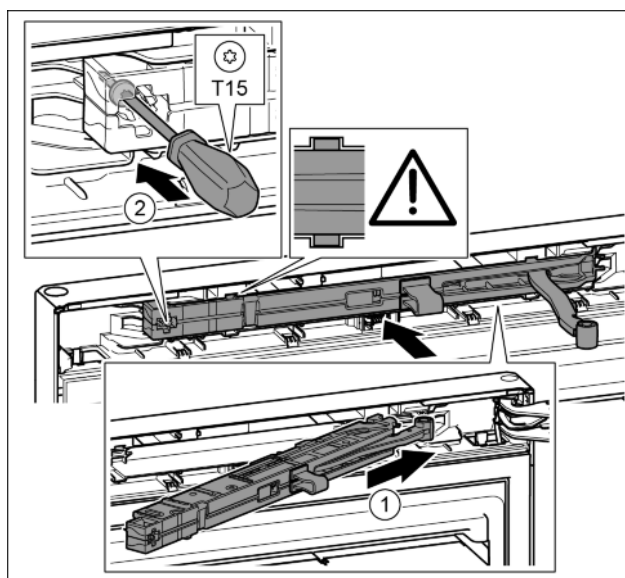

Fig. 21
- Slide the soft stop mechanism on the bearing bracket side at an angle into the slot as far as the limit stop. Fig. 21 (1)
- Tighten the screw with the T15 screwdriver. Fig. 21 (2)